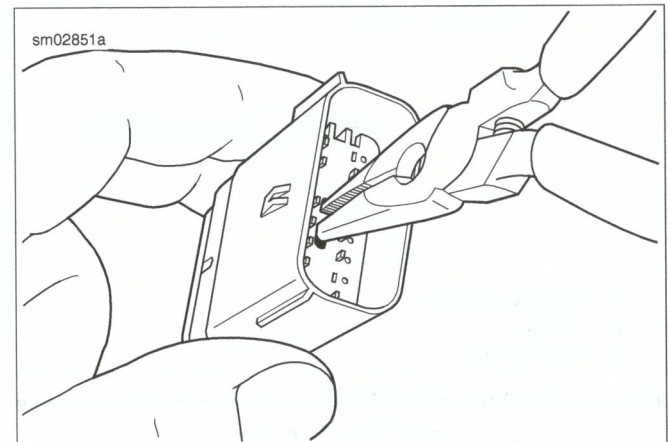

Figure A-14. Pull Up Secondary Lock
- b. **Pin housing:** See Figure A-14. Use needle nose pliers to engage the D-holes in the center of the secondary lock.